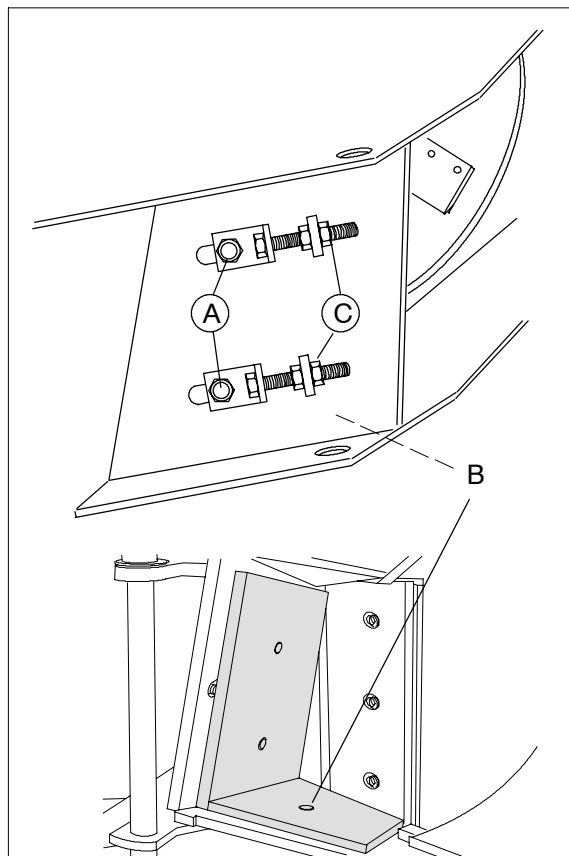

Fig.23.
- 6.Turn the disk so that a knife and the anvil are opposite each other. Adjust the anvil with the nuts (C.) fig. 23. wrench size 3/4" or 19 mm) until a clearance of 1/20...1/30 of an inch. If you do not have a gauge, use the tickness of a matchbox cover as a guide.
- 7.Tighten the adjusting nuts (C). Tighten the anvil fastening bolts (A, B) to 200 Nm or 155 foot-pounds.